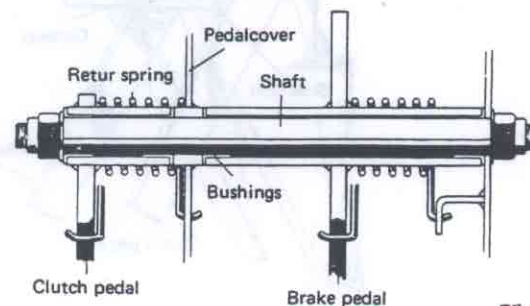

Fig. 41-3. Pedal carrier
1. Unhook the return spring for the release lever, see Fig. 41-3. Disconnect the wire from the lever.